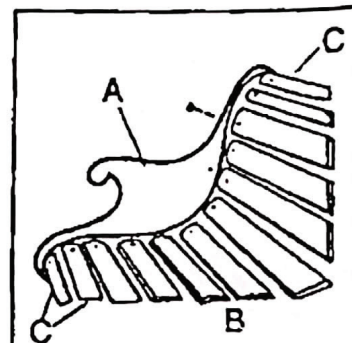

FIGURE 1
1. Assemble slats(B & C)to the cast iron ends(A)using the bolts(D) with nuts(E). Do not fully tighten the bolts at this stage. Ensure that two of the narrow slats are at the front edge of the seat and the other is at the top of the backrest. Refer to Fig. 1